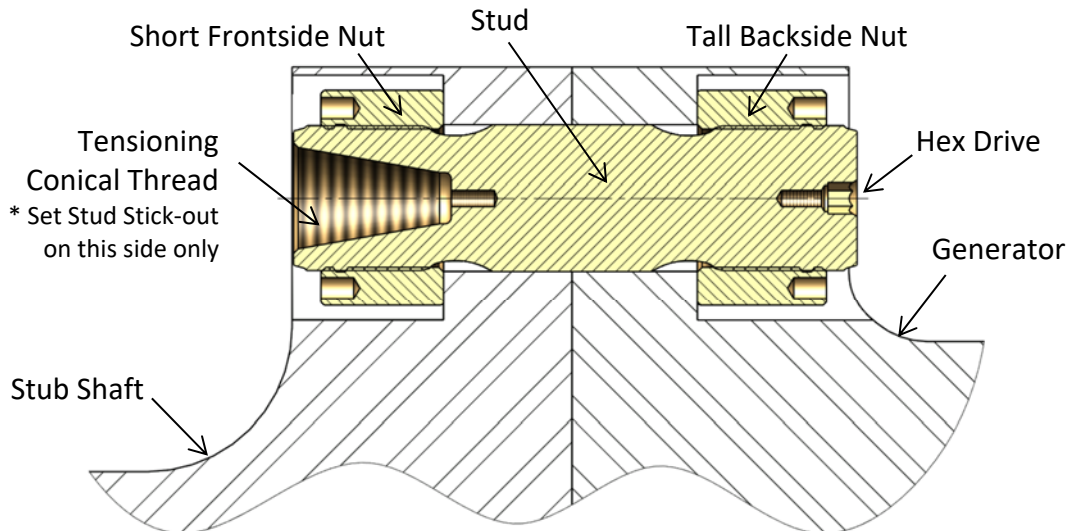

Figure 6A – Cross-section View of A650 Stub Shaft to Generator
4. Slide the stud and nut into the flange as shown in Figure 6A.